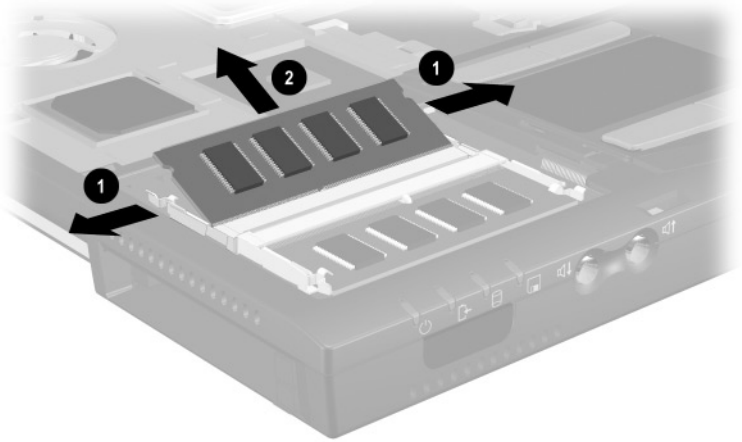

Figure 5-14. Removing a Memory Expansion Board
5. Spread the retaining tabs ❶ that secure the memory expansion board to the socket. The board rises up at a 45-degree angle (Figure 5-14).
6. Pull the board away from the socket at a 45-degree angle ❷.